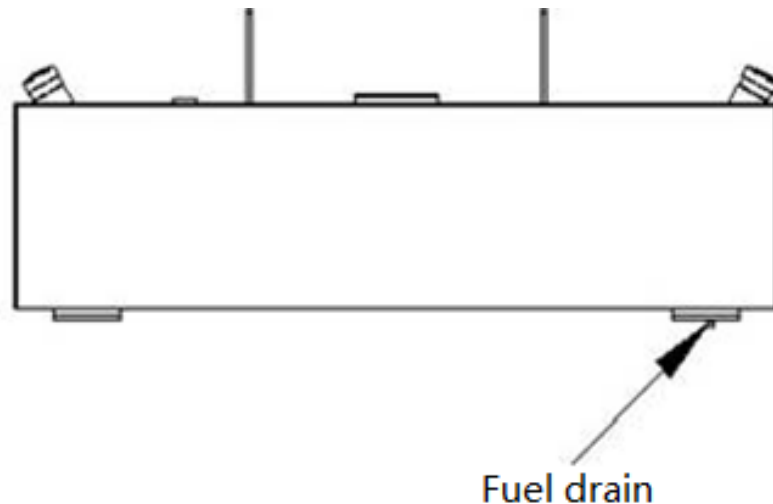

Figure 8.6.10-1 Fuel tank drain
2. Open the diesel drain plug to drain the fuel, as shown in figure 8.6.10-1,